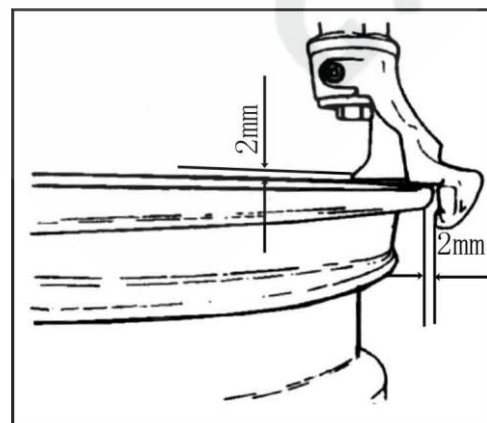
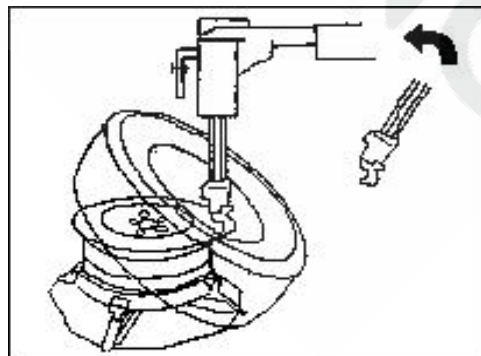

FIG22
FIG26
to make the demount tool detached from the rim of the rim to avoid the damage on the rim. (fig22) .
4.2.2 Spread the lubrication liquid or soap liquid around the lip. Tilt the tire against the rim and keep the front end upwards. Press down the column tilt pedal (fig2-11) to make the column return to the original position. Move the demount head to firmly contacted rim(fig22). Position the left of the lip above the tail of the demount tool and the right under the hump of the demount tool. See FIG 26.